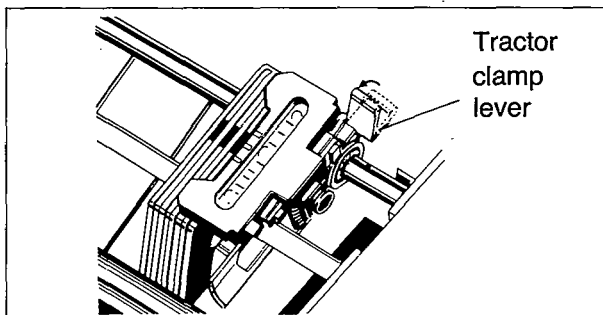

Figure 2.6A Unlocking the Tractor
- Refer to Figures 2.6A and 2.6B. Unlock the tractors by pulling up on the tractor clamp levers. Slide the tractors out toward the sides and raise the covers.